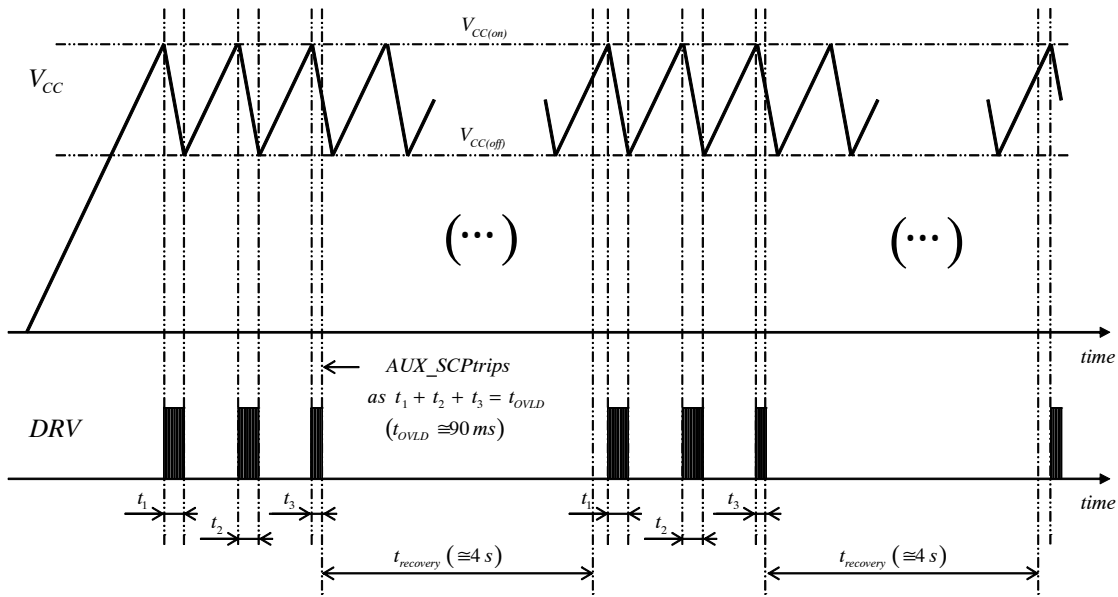

Figure 60. Start-up Sequence in a Load Short-circuit Situation (auto-recovery versions)
- If the load is shorted, the circuit will operate in hiccup mode with V_{CC} oscillating between $V_{CC(off)}$ and $V_{CC(on)}$ until the AUX_SCP protection trips (AUX_SCP is triggered if the ZCD pin voltage does not exceed 1 V within a 90-ms operation period of time thus indicating a short to ground of the ZCD pin or an excessive load preventing the output voltage from rising). The NCL30086A and NCL3006C latch off in this case. With the B and D versions, the AUX_SCP protection forces the 4-s auto-recovery delay to reduce the operation duty-ratio. Figure 60 illustrates a start-up sequence with the output shorted to ground, in this second case.